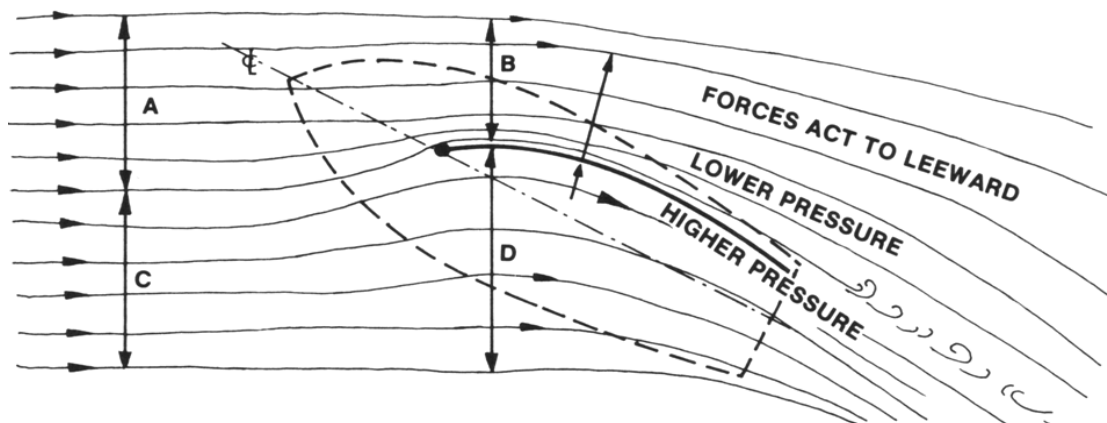

Figure 28 Airflow Around the Sail
- The diffusion of air caused by the difference in pressure on either side of the sail, results in the creation of sail forces. Sail forces act at right angles to the surface of the sail along the leeward side; these forces are strongest at the luff of the sail and weaken as airflow continues to the leech (as illustrated in Figure 28).